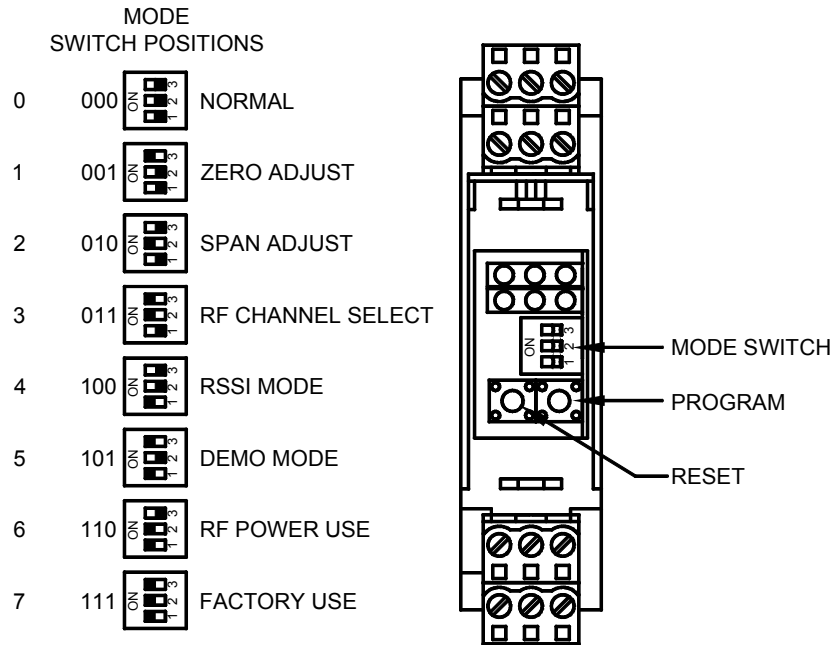

Figure 3 Mode switches.
The mode switches are used for calibration, RF channel selection and RSSI (received signal strength indication) activation. Figure 3 shows the function of each switch position.
Return all switches to Mode 0 for normal operation. Refer to figure 3 for mode switch settings.
Mode 3 (b011): RF Channel Select: Set mode switches for mode 3 (see figure 3) then press and release the reset switch. There are 8 RF channels available, 0-7. After power up sequence, the present RF channel will be displayed, see figure 4. To return to normal mode return all switches to b000 or to change RF, channels press and release the program switch and the next incremented channel will be displayed. Each subsequent press and release of the program switch increments the RF channel, channels will wrap around from 7 to 0. When the desired channel is displayed, press and hold the program switch for five seconds, the power LED will blink twice to indicate value has been stored. Return all switches to b000, programming is complete. The RF channel must match the RF channel on the receiver. Refer to A750 Receiver manual for RF Channel Select procedure.
Mode 6 (b110): RF Power Select: Set mode switches for mode 6 (see figure 3) then press and release the reset switch. There are 5 RF power settings available (1mW, 10mW, 100mW, 500mW, 1W). After power up sequence, the present RF power setting will be displayed, see figure 5. To return to normal mode return all switches to b000 or to change RF power setting, press and release the program switch and the next incremented channel will be displayed. Each subsequent press and release of the program switch increments the RF power, power setting will wrap around from 4 to 0. When the desired power level is displayed, press and hold the program switch for five seconds, the power LED will blink twice to indicate value has been stored. Return all switches to b000, programming is complete.
- 4.3.1 Lift Access Door to expose mode, reset, and programming switches (see figure 3).
- 4.3.3 Set mode switch to Mode 2 (“Span Adjust”) – see figure 3 for proper setting.
- 4.3.9 Set mode switch to Mode 1 (“Zero Adjust”) -- see figure 3 for proper setting.